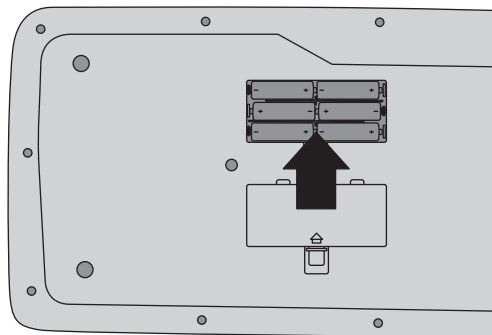

fig. 3
3. Carefully slide the battery door closed. See fig. 3